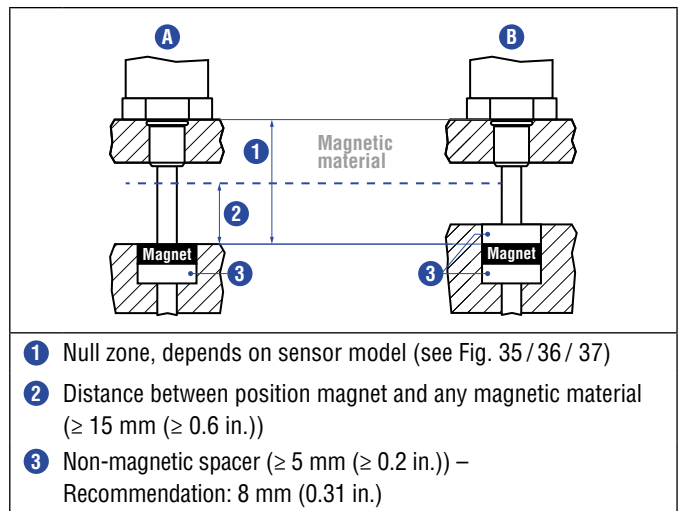

Fig. 33: Installation with magnetic material
- Minimum distance between position magnet and any magnetic material has to be 15 mm (0.6 in.) (Fig. 33).
- If no other option exists and magnetic material is used, observe the specified dimensions (Fig. 33).
When using magnetic material the dimensions of Fig. 33 must be observed.